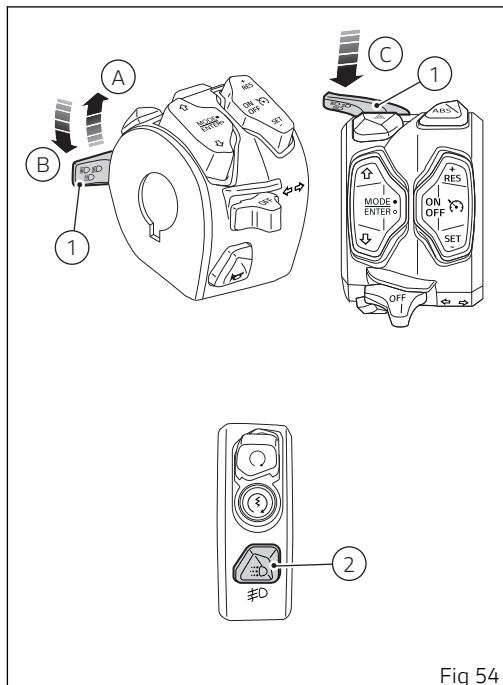

Fig 54
When the DRL are set to "Auto" mode, the corresponding warning light (16, Fig 76) will turn on. By pressing button (2, Fig 54) DRL are turned off; by pressing again button (2, Fig 54) DRL turn on with control strategy set to "Manual".
If DRL have been set in "Manual" mode (see page 226), to turn off or on the DRL, use button (2, Fig 54). When the DRL are set to "Manual" mode, the corresponding warning light (17, Fig 76) will turn on.
- if DRL are present, press and hold button (2, Fig 54) for a long time;
- if DRL are not present, press button (2, Fig 54).